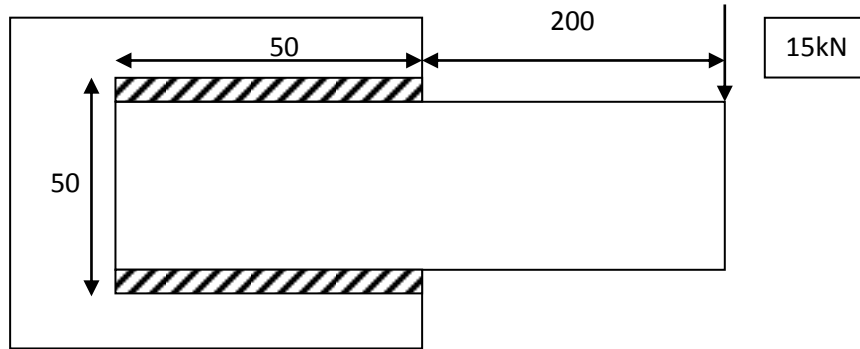

Figure.2
- Q.6 A welded connection is used to join two steel plates as shown in the figure 2 is subjected to an eccentric force of 15kN. 12